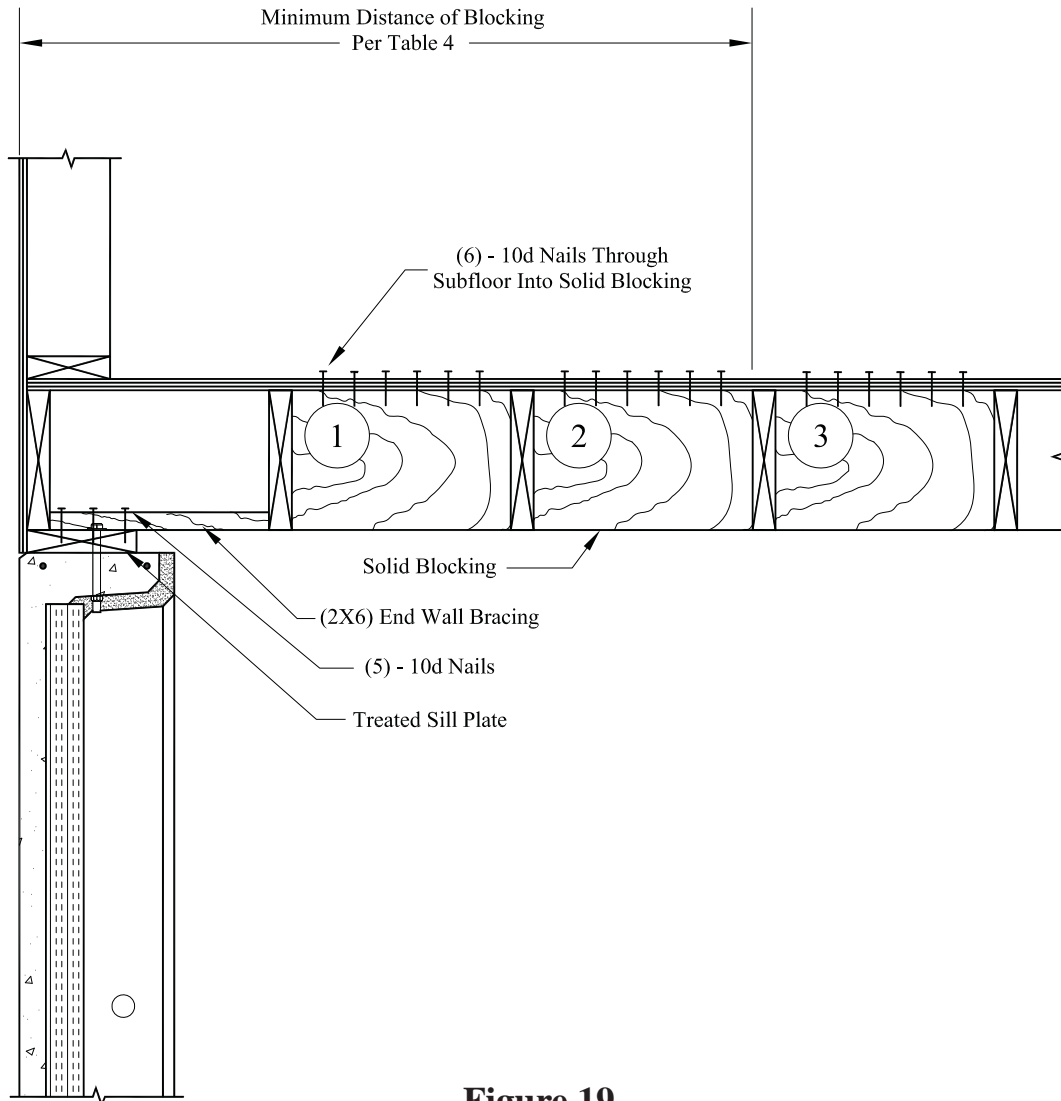
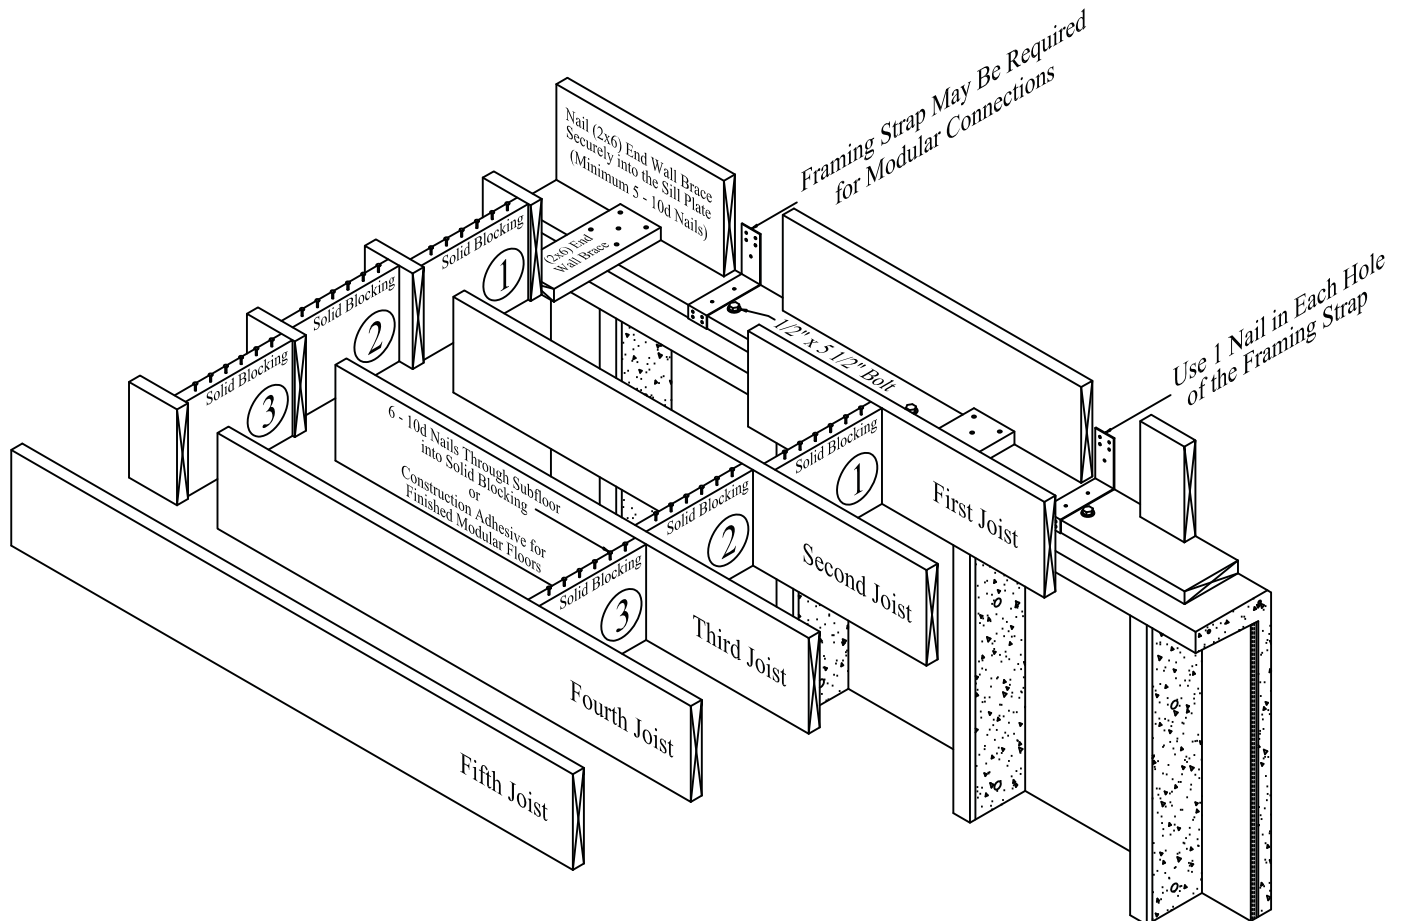
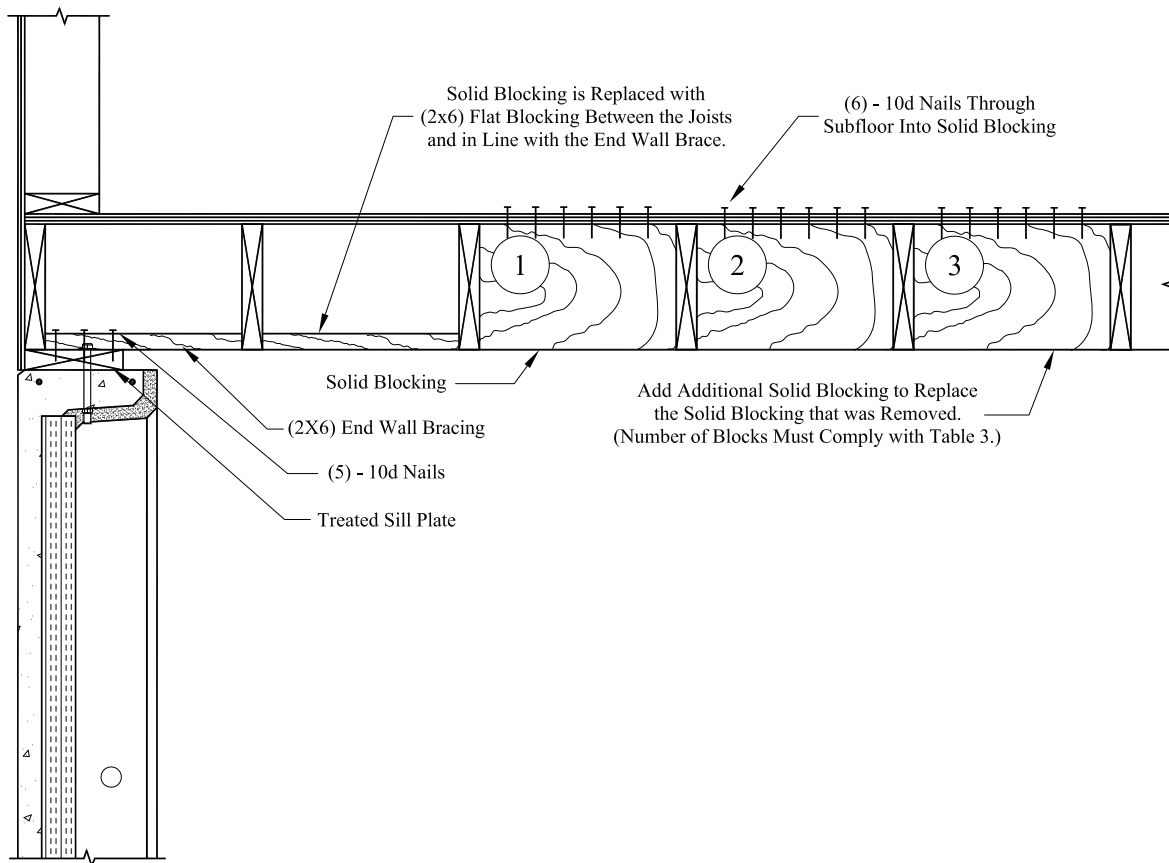

Figure 19
Figure 20
Figure 21
- Nail a 2 x 6 end wall brace securely to the sill plate with five 10d nails every 48" on center. (Braces must be within 12" from the interior of each corner.) See Figure 19 on page 27 and Figure 20 on page 28.
To accommodate for HVAC ductwork that is located where Solid Blocking is shown in Figure 19 on page 27 and Figure 20 on page 28, additional blocking is required as shown in Figure 21 (below).
- Solid Blocking is replaced with 2x6 Flat Blocking. (Locate Flat Blocking between the joists and in line with the 2x6 End Wall Braces.) (See Figure 21.)
- When sill plate and required blocking are completed during modular construction, attach the modular construction as shown in Figure 19 and Table 3 on page 27.
- Nail 2x6 end wall braces securely to the sill plate, every 48" on center, using five 10d nails. (Braces must be within 12" from the interior of each corner.) See Figure 19 on page 27 and Figure 20 on page 28.